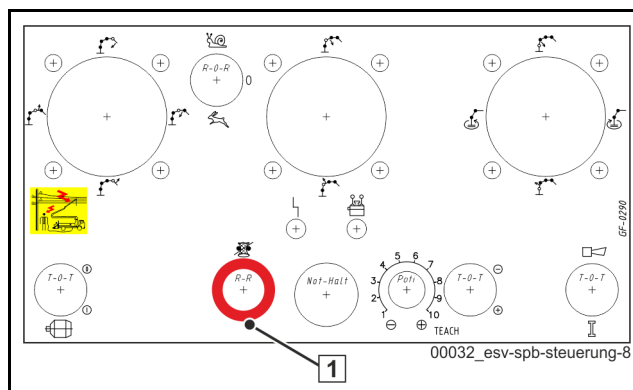

Fig. 445 Schematic diagram of remote control
The remote control has a selector switch (1) (**Fig. 445**) for opening and closing the end hose stop valve. The selector switch is a toggle switch.